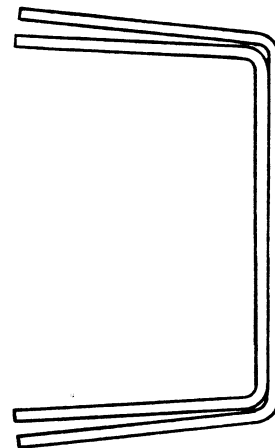
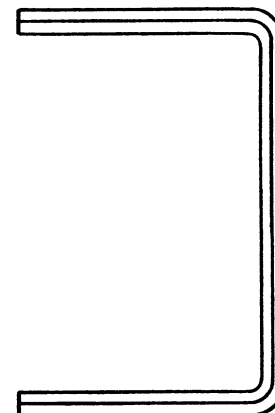

Figure 2A
Figure 2B
5. Now it's time to recondition your frame rails. Your frame is two layers thick in the front area. During the past 60 some years, rust forms between the layers of the frame rail flanges and swells, causing them to separate. This causes the rail flanges to actually open up, as in Figure 2A. Your rails will probably look similar to this. It is necessary to squeeze the two layers back together, using a vice-grips or hammer and block. Then, using a large C-clamp, bend both flanges back together so the rail is square again. (See Figure 2B.) It does not need to be perfect for the entire length, but it should be close in the areas where the new crossmember and spring towers mount. The better you can make the rails in this step, the easier it will be to weld in the new components. Also, grind off and weld in the rivets on the top of the frame rails.